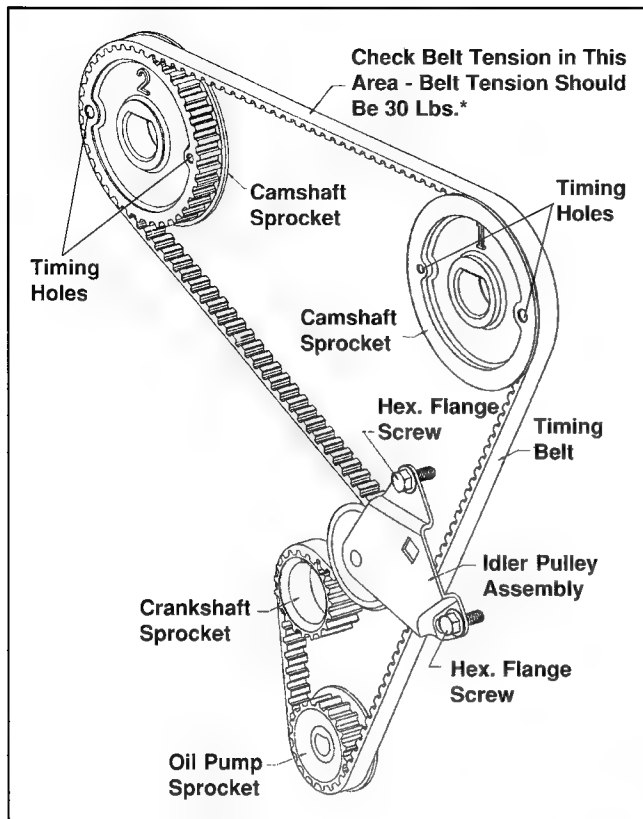

Figure 11-32. Timing Belt Detail.
3. Rotate camshafts until timing holes in sprockets are horizontal and numbers are at the top. See Figure 11-32.
6. Route timing belt along the left side of crankshaft and oil pump sprockets. See Figure 11-32.
7. Route timing belt counterclockwise around remaining sprockets as shown in Figure 11-32. If belt has arrows on it, they should point in the direction of rotation (clockwise).
- Adjust timing belt tension (cold engine) by applying **3.4/4.5 N·m (30/40 in. lbs.)** torque in counterclockwise direction. Tighten idler assembly screws to **7.3 N·m (65 in. lbs.)**, starting with the lower screw. See Figures 11-32 and 11-35.